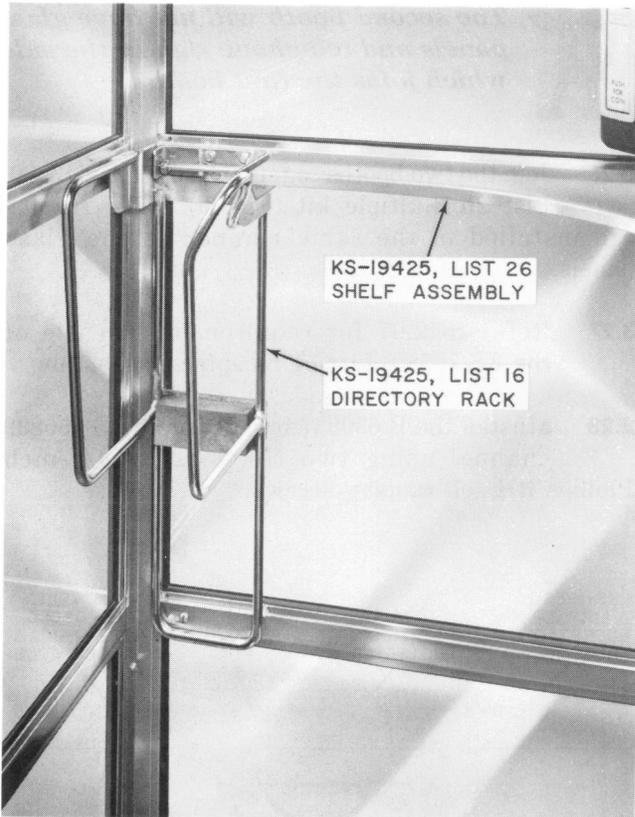

Fig. 15—KS-19425, List 16 Directory Rack and KS-19425, List 26 Shelf Assembly
3.20 To install KS-19425, List 16 directory rack and KS-19425, List 26 shelf assembly (Fig. 15), proceed as follows: